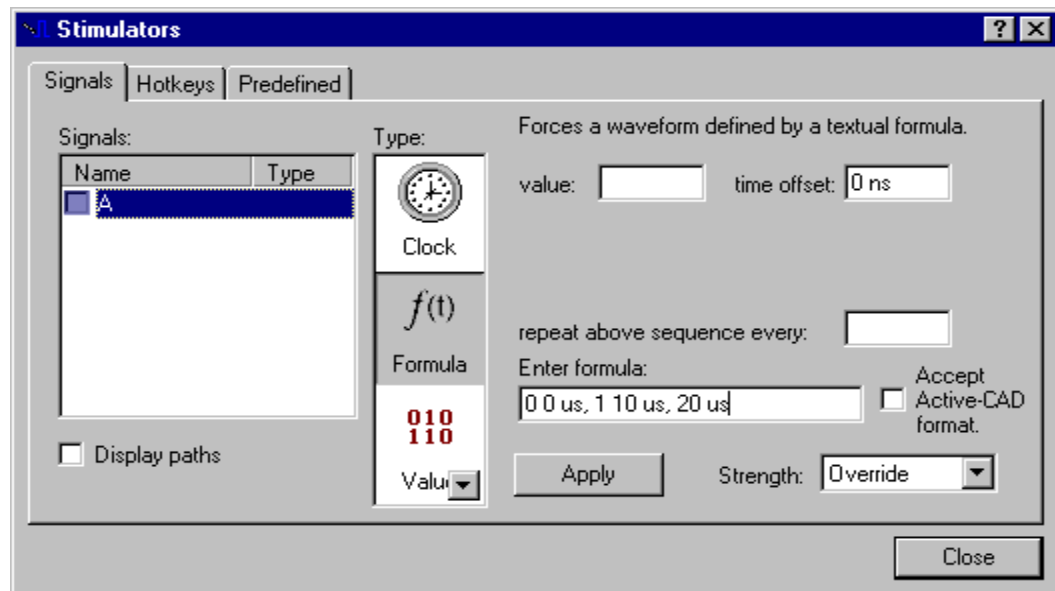

Figure 49
2. In the “Enter formula” field, enter the value (1 or 0) followed by a space and the time at which to assert this value. For example, the following formula will cause a signal to start out at 1, then change to 0 at 10 us and back to 1 at 20 us: 1 0 us, 0 10 us, 1 20 us (see Figure 49).